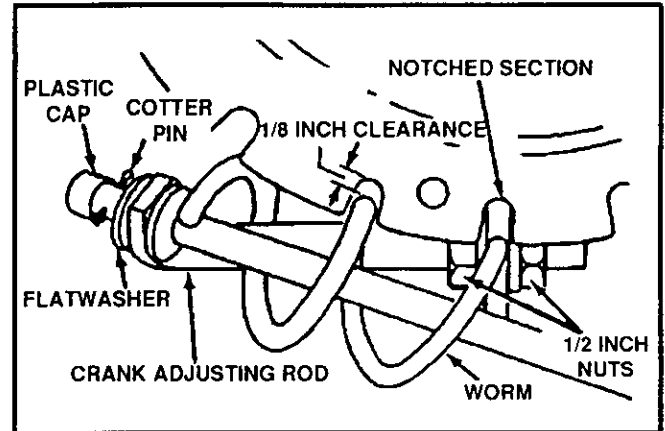

FIG. 5
- Remove the plastic bag from chute crank assembly. Remove the plastic cap, cotter pin and washer from the wormed end of the auger assembly (See FIG. 5 page 9).
- Rotate the notched section of the discharge chute toward the crank-adjusting rod (See FIG. 5 page 9).
- Install the wormed end of the crank through the hole in the adjusting rod and secure the end with the flat washer and cotter pin, as shown in FIG. 5 page 9
- Rotate the chute crank fully clockwise and fully counter-clockwise. The discharge chute should rotate fully to the outer diameter of the worm and should clear approximately 1/8" (See FIG. 5). If the chute crank needs to be adjusted, go to the Service and Adjustments section in this manual. Screws securing chute clips at the base of the chute should be slightly loose for easy rotation.